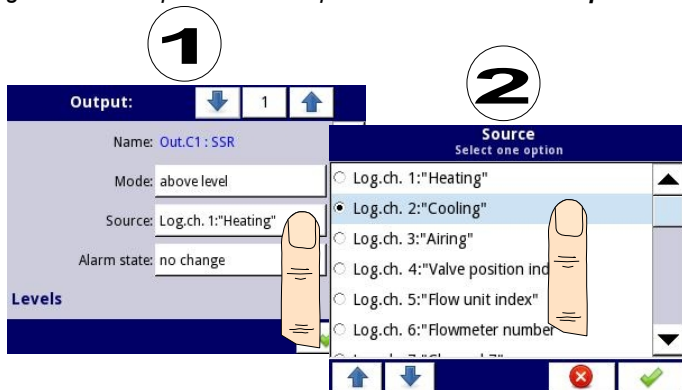

Fig. 7.67. Data source settings for built-in output (for SSR output module)
- **Source** - after pressing the button next to the **Source** label a list of logical channels appears (up to 60), where the selected logical channel will be a data source for this built-in output (see Fig. 7.67).
- **Source** - after pressing the button next to the **Source** label a list of logical channels appears (up to 60), where the selected logical channel will be the data source for this built-in output (see Fig. 7.67).
- **Source** - after pressing the button next to the **Source** label a list appear of logical channels (up to 60), where the selected logical channel will be a data source for this built-in output (see Fig. 7.67).